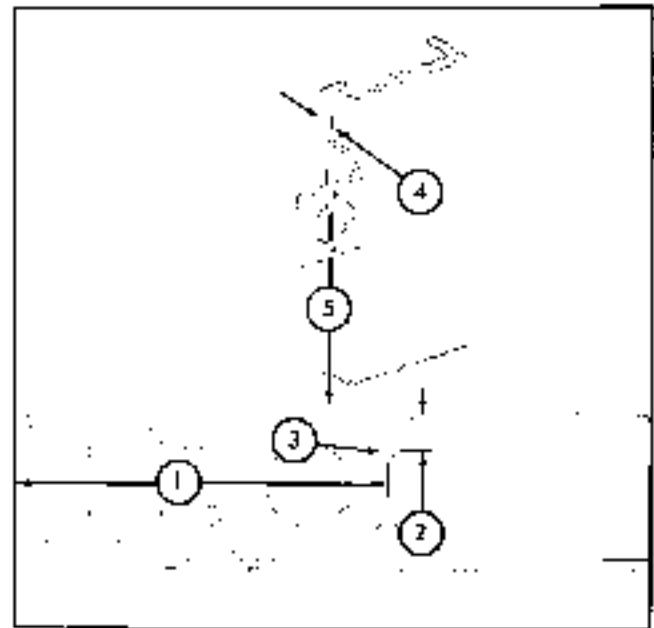

Fig. 158. Light mounting bracket
a. Measure up 38 inches from bottom of outer right hand rail and weld light bracket to back side of rail. See figure 158.
b. Drill a 7/16" hole in instrument panel, in the position shown in Fig. 158, for the light switch. Install switch.